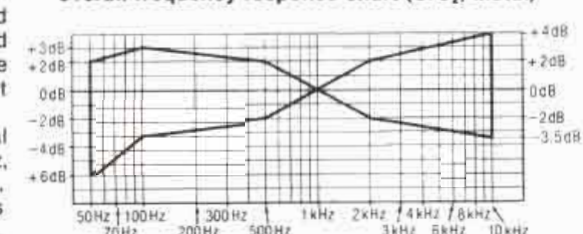

Fig. 15
- Change test tape to CrO₂ reference blank test tape (QZZCRX), and record 1kHz, 50Hz, 100Hz, 200Hz, 500Hz, 4kHz, 8kHz, 10kHz and 15kHz signals. Then, playback the signals and check if the curve is within the limits shown in the overall frequency response chart for CrO₂ tapes (fig. 15).
- Place UNIT into metal tape mode and change test tape to metal reference blank test tape (QZZCRZ), and record 1kHz, 50Hz, 100Hz, 200Hz, 500Hz, 4kHz, 8kHz and 12.5kHz signals. Then, playback the signals and check if the curve is within the limits shown in the overall frequency response chart for metal tapes (fig. 15).